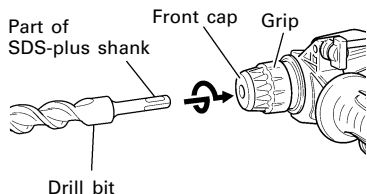

Fig. 1
4. Mounting the drill bit (Fig. 1)
(1) Clean the shank portion of the drill bit.
(2) Insert the drill bit in a twisting manner into the tool holder until it latches itself (Fig. 1).